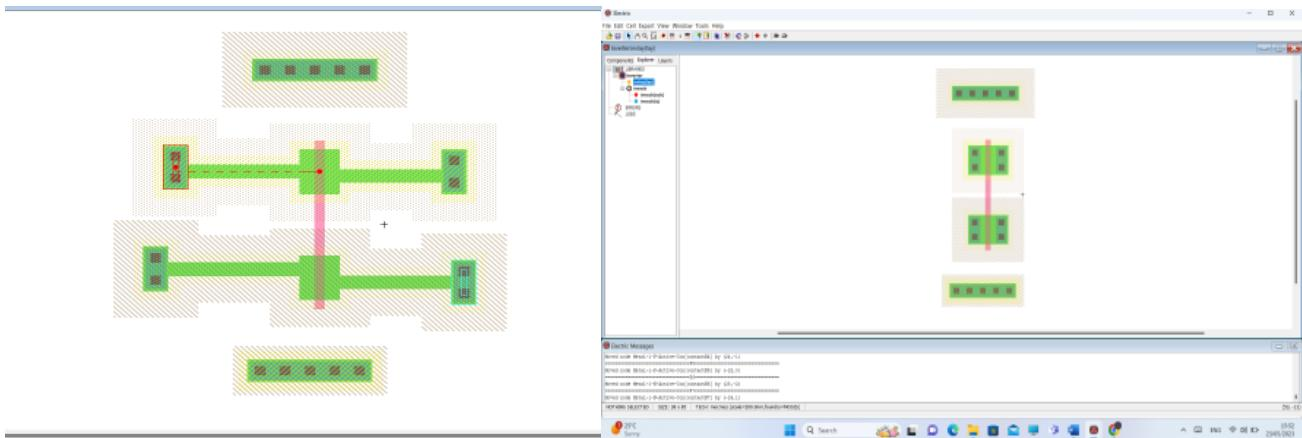

Figure 1.39: Connecting the components.
6. Make connections between components (Click on the mouse's left button on one of the terminals of the component, then click on the terminal that you want to link with by clicking the mouse's right button). (see Figure 1.39).